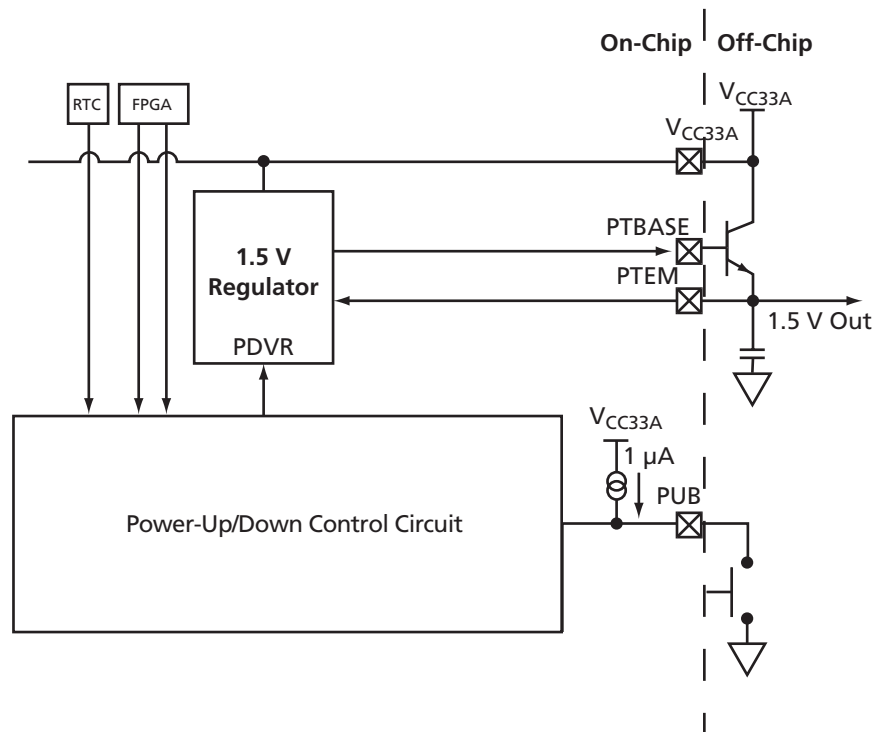

Figure 2 • 1.5 V Voltage Regulator (VR)
In conjunction with an external pass transistor, the voltage regulator (VR) generates a 1.5 V power supply from the 3.3 V power supply (Figure 2). The VR can drive up to 20 mA of current to the base of the transistor. The maximum 1.5 V current supplied will depend upon the gain of the transistor utilized and the clamp current of the 3.3 V power supply. Using a typical transistor with a gain of 25, the 1.5 V output can easily supply current requirements for the Fusion device. If there are additional 1.5 V board requirements, the transistor can be sized accordingly. Actel recommends using the following transistors with the VR: PN2222A or 2N2222A.